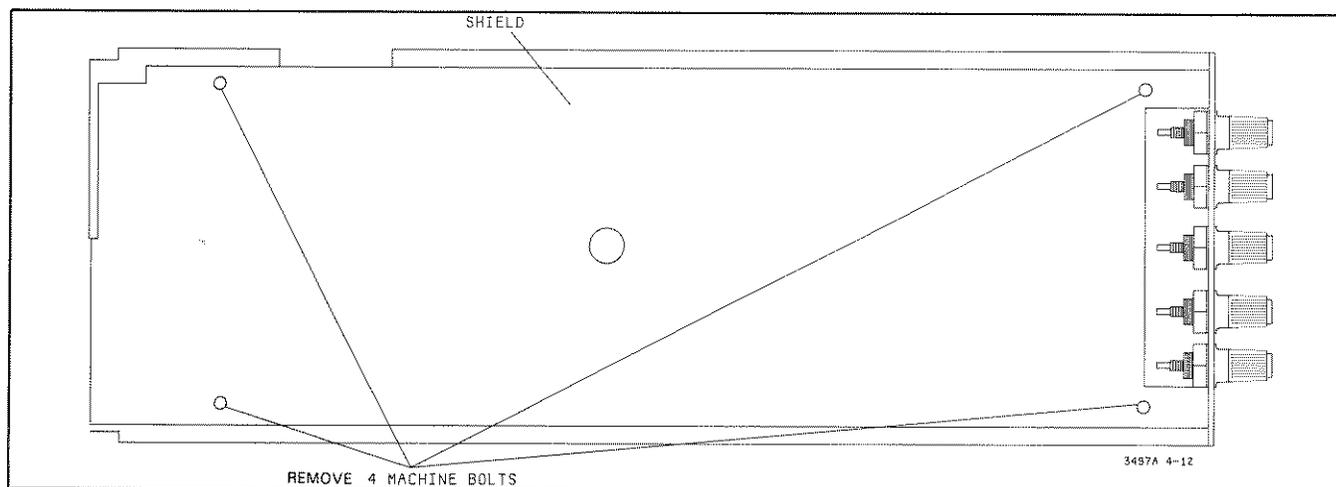

Figure 4-12. Removing Voltmeter Shield
- e. On the inguard assembly, locate the voltmeter board. Then locate the metal shield on the board, as shown in Figure 4-12. Remove the four machine bolts located near the corners of the shield and then remove the shield, as shown in the figure.